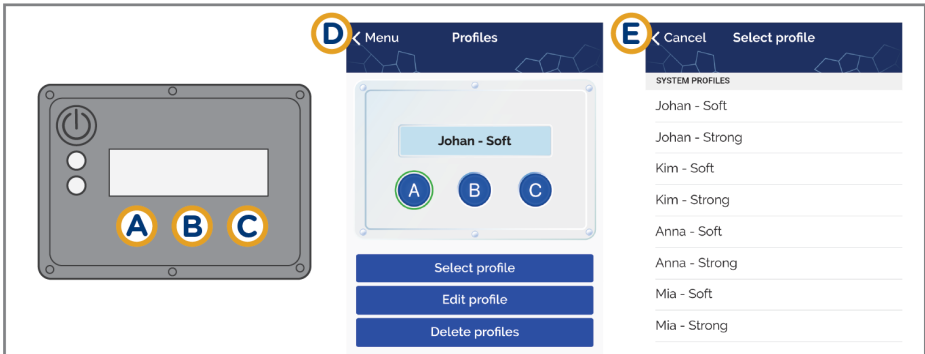

Figure 20: The Carbonhand App. To assign a profile to a button.
3. Select the button you want to assign a profile to (**A**, **B** or **C**). The selected button will be highlighted with a green circle (figure 20 D).
4. Go to **Select profile**. Select the profile you want to use with the activated button (figure 20 E).